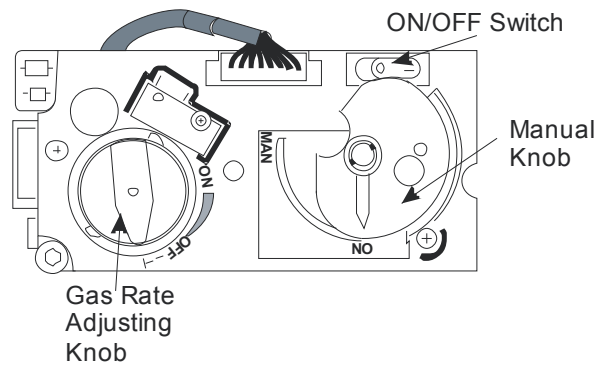

Figure 15 – Total Control Gas Valve
2. Simultaneously press and hold the ● (red circle) and 🔥 (large flame) buttons until a short acoustic signal confirms the start sequence has begun, then release the buttons (see **Figure 15**).